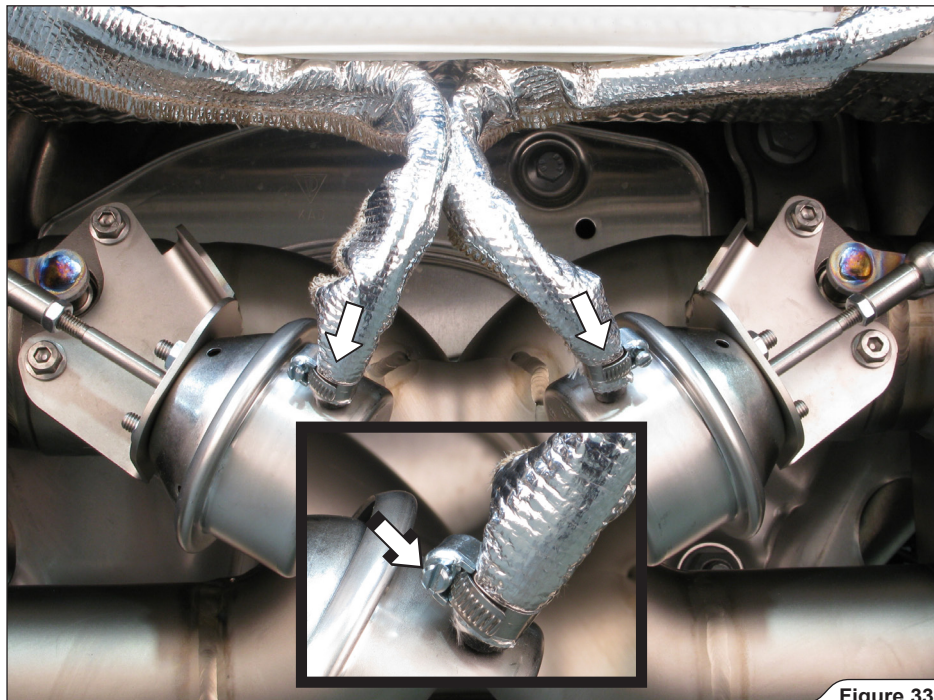

Figure 33
13. Connect the vacuum tubes to the vacuum actuators and tighten the tape clamps (**Figure 33**).